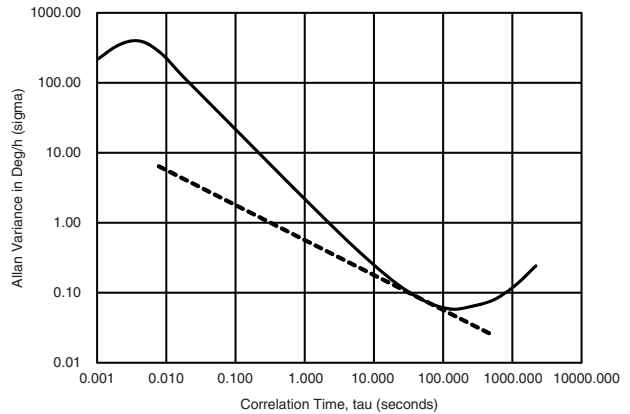

Figure 6.25 Derivation of Angle Random Walk and Bias Instability
Figure 6.25 shows a general Allan Variance graph as a guide for calculating Bias Instability and Angle Random Walk. The Angle Random Walk is calculated as follows:
- The Angle Random Walk is this value, in units of degrees/hour, divided by 60. In the Figure 6.25, the line intercept the 1 second correlation time at $0.57^\circ/h$, giving an Angle Random Walk of $0.01^\circ/h$.
The Bias Instability is value at the minimum part of the Allan Variance plot, usually between correlation times of 10s and 100s. In the Figure 6.25, the Bias Instability is approximately $0.05^\circ/h$.